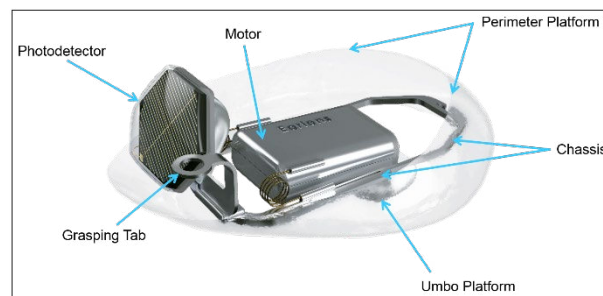

Figure 2: Lens
The Lens (Figure 2) is designed to receive light signals from the Light Tip and convert the light signals into mechanical vibrations of the tympanic membrane (TM). The Lens is customized for each patient and is placed in to position by a trained physician. It is placed at the end of the ear canal on the skin around the TM.